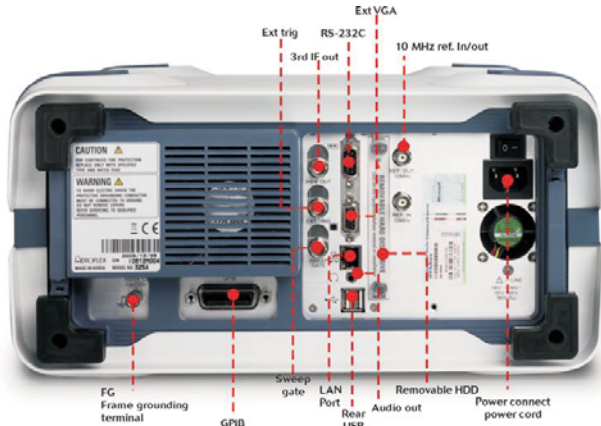

Figure 1 3250 Rear Panel
2. View the instrument from the rear panel and identify the location of REMOVABLE HARD DISK DRIVE indicated as Removable HDD in Figure 1.